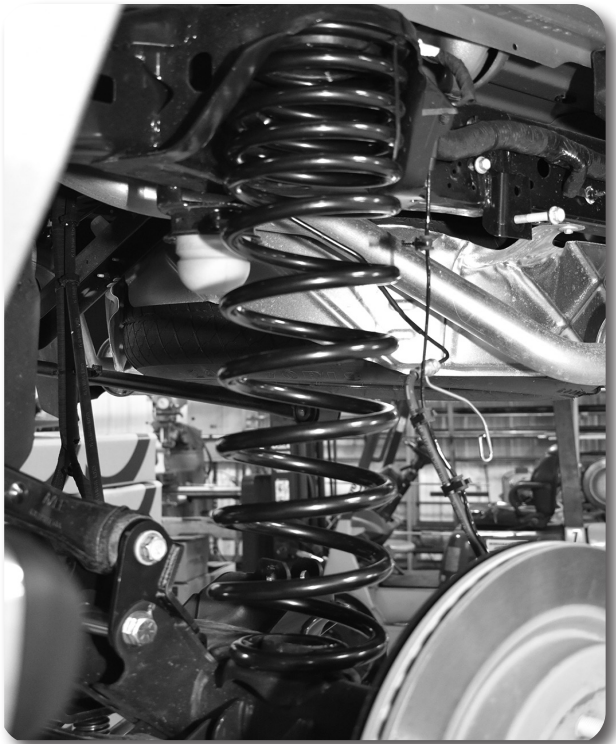

Figure 14
24. Install the new coil spring with the OE rubber isolator. Ensure the alignment pins on the OE isolator align with holes in the upper coil seat. **Figure 14**